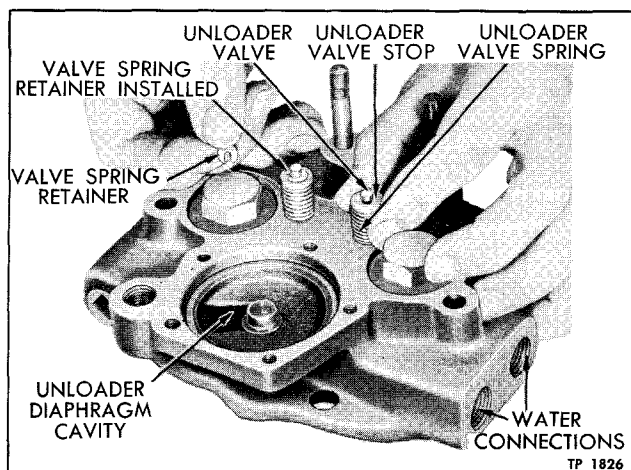

Figure 24—Installing Unloading Valves
1. Insert each unloading valve into cylinder head body from bottom side. Place a small wooden block or a nut under each valve to hold it up against seat as head is set on bench. Install unloading valve spring over each valve, then place stop on top of each spring. Compress each unloading valve spring by hand and install spring retainer on valve stem above stop (fig. 24).